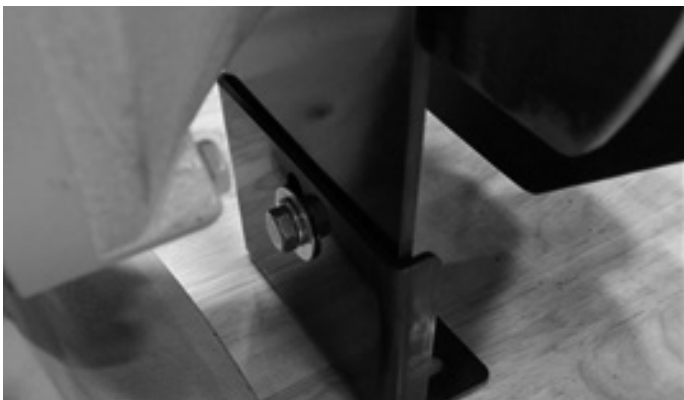

Figure 2. Support bracket, beneath right-side guard.
1. Assemble the support bracket, using the provided plates, matching 3/8" screw and 3/8" washer and 3/8" spring washer on the motor side of the plate (shown in Figure 2).
NOTE: Ensure that the foot of each plate faces away from the motor, as shown in Figure 2.